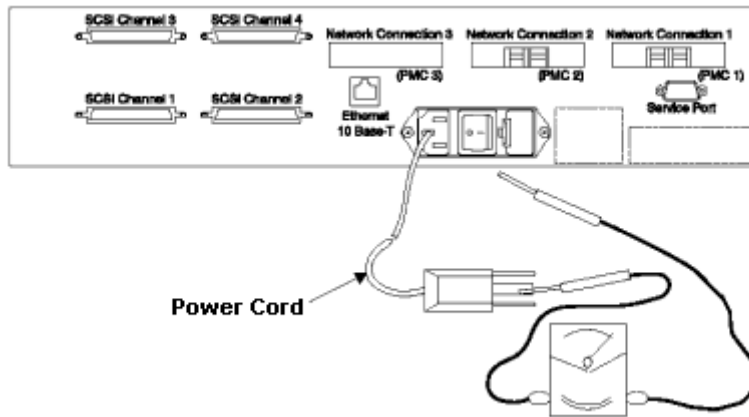

Figure 1-2: Ground Test
5. Check for proper grounding. See Figure 1-2.